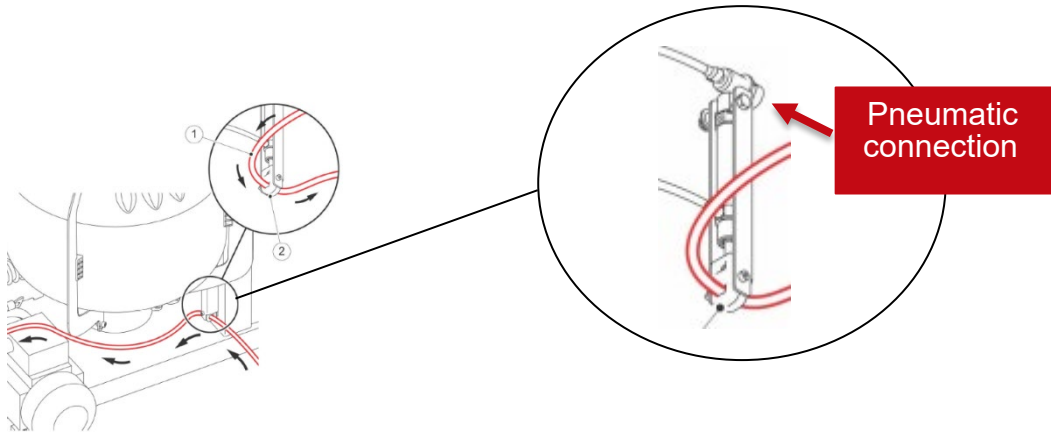

Figure 36. For Astronaut A3 Next
- Connection for Astronaut A3Next and A4, see figure 36